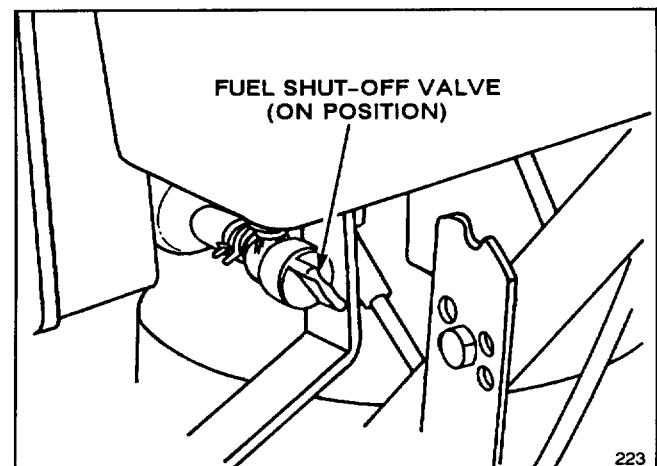

Figure 8
3. Turn fuel shut-off valve to ON position (Fig. 8).